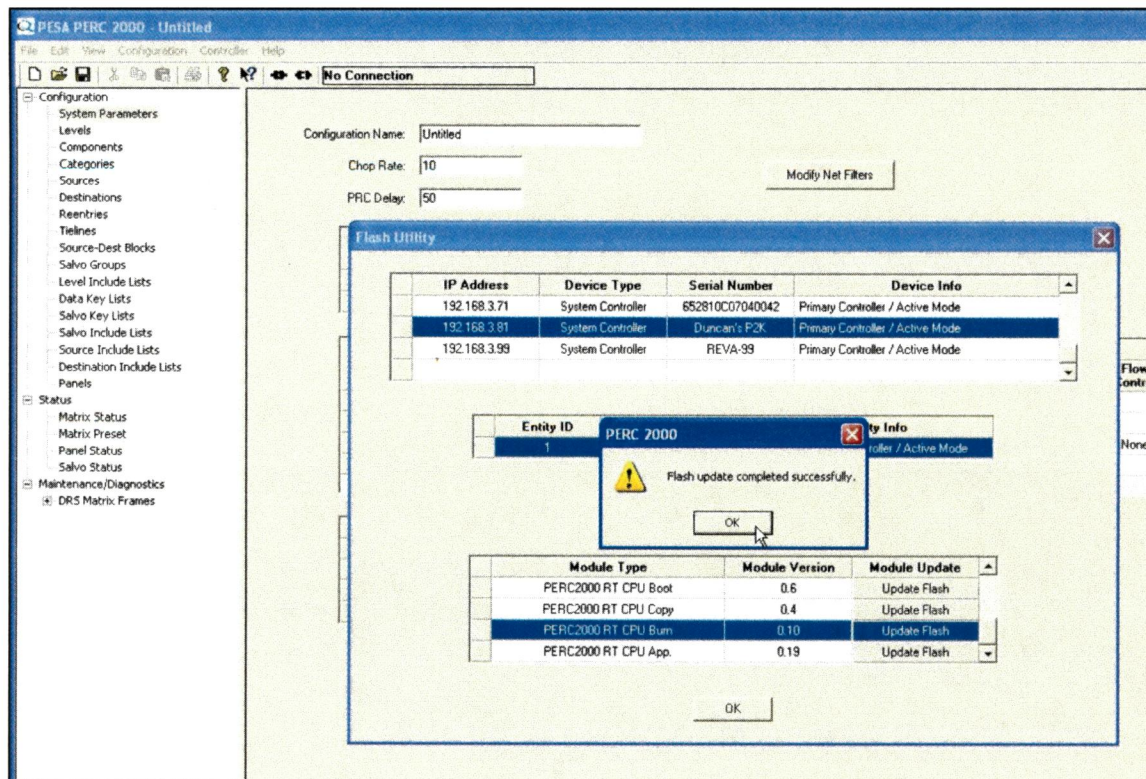

Figure 42. Flash Complete Notification Box
- ☐ 9. When the module has been reprogrammed, the GUI will display a window stating that the Flash Update was successful as shown in Figure 42. Click **OK** to clear the window.
- ☐ 15. When the module has been reprogrammed, the GUI will display a window stating that the Flash Update was successful as shown in Figure 42. Click **OK** to clear the window.